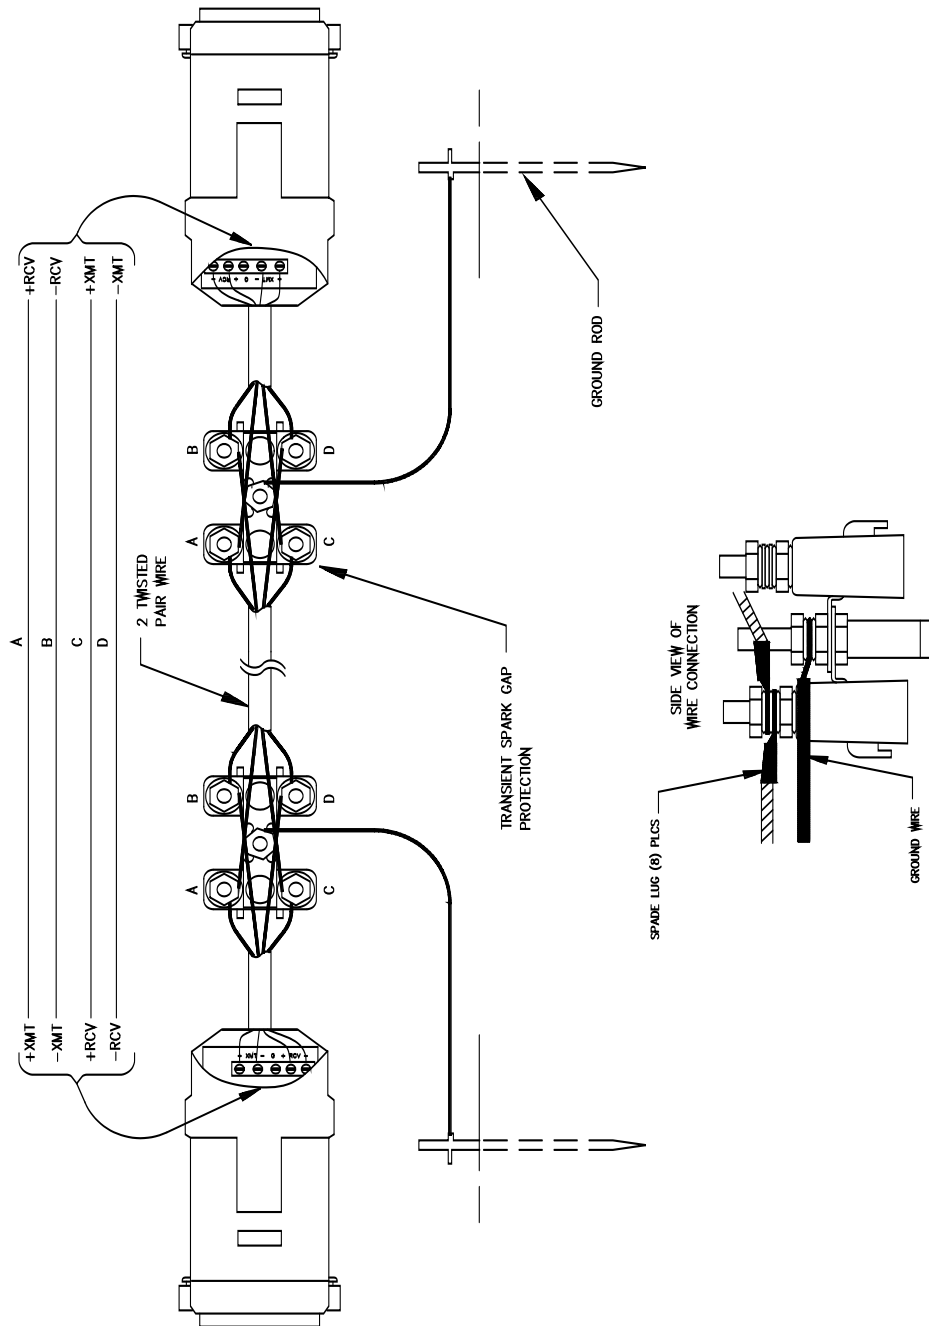

FIGURE 4-2. Installation of Spark Gap Protection
FIGURE 4-2 shows a typical setup of the RAD modems. Installation is as follows:
3. Wiring connections are made as shown in FIGURE 4-2. Note wires labeled A and B are one twisted pair of the cable. Wires labeled C and D are the other twisted pair.
4. Transients induced on the communication line may damage any electronics connected at either end of the line. To decrease the chances for damage, spark gaps should be installed as shown in FIGURE 4-2. The
transient protection shown may be purchased from Campbell Scientific (pn #5563 shown in FIGURE 4-2, pn #6536 includes a plastic case, pn #6361 includes hardware for mounting to ground lug of Campbell Scientific enclosures models ENC10/12, ENC12/14, or ENC16/18). Spark gap wiring is straight through such that pin to pin continuity exists between the two modems. If the modems are installed entirely within a building, the transient spark gap protection is probably not needed.